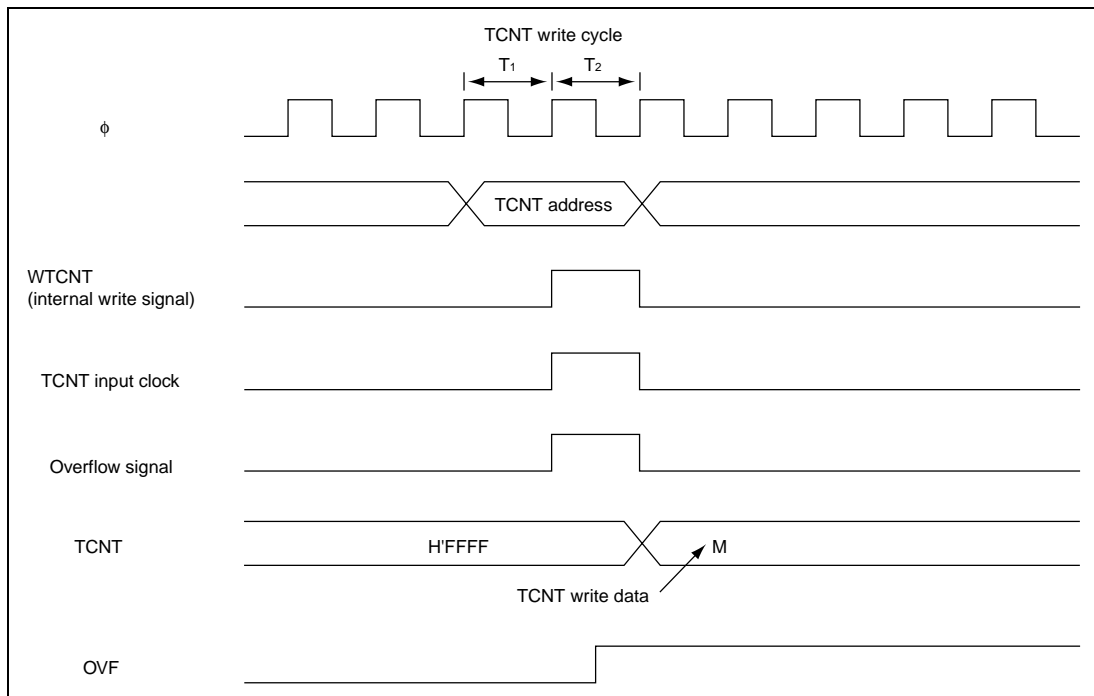

Figure 13.55 Contention between TCNT Write and Overflow
4. Contention between TCNT Write and Overflow/Underflow: If overflow/underflow occurs in the T_2 state of a TCNT write cycle, TCNT write has priority without an increment operation. At this time, the OVF flag is set to 1. Figure 13.55 shows the timing in this case.